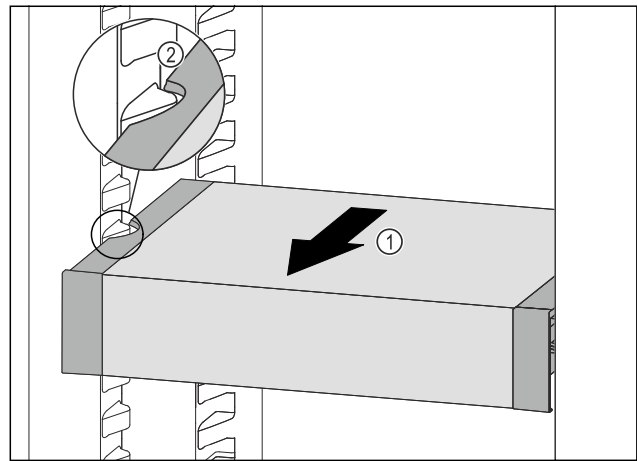

Fig. 185
- ▶ Pull VarioSafe forwards Fig. 185 (1) until the recesses in the side of the VarioSafe are at the level of the support rib in the fridge section. Fig. 185 (2)